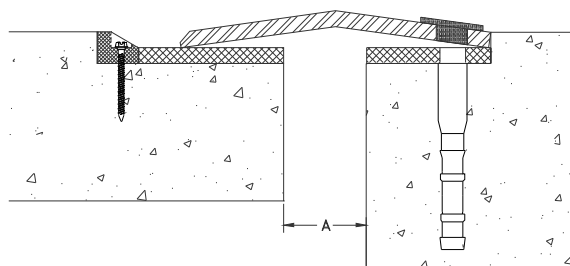
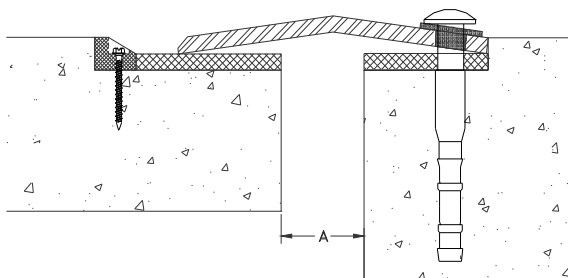

Figure 20
Figure 21
STEP 40. Select the cover plate, and the cover plate anchors. Place the cover plate into its installed position. Ensure that the cover plate is straight, even, and properly aligned. Ensure that the anchor holes in the cover plate align properly with the drop-in anchors installed in the concrete. Place a bushing into each anchor hole in the cover plate. The bushing flanges must rest on the top of the cover plate and the body of each bushing must be inserted into the anchor hole through the cover plate (see Figure 20). Attach the cover plate to the concrete using the fasteners provided by the factory (see Figure 21). Repeat the procedures given in Step 37 through Step 40 for each section of the cover plate.